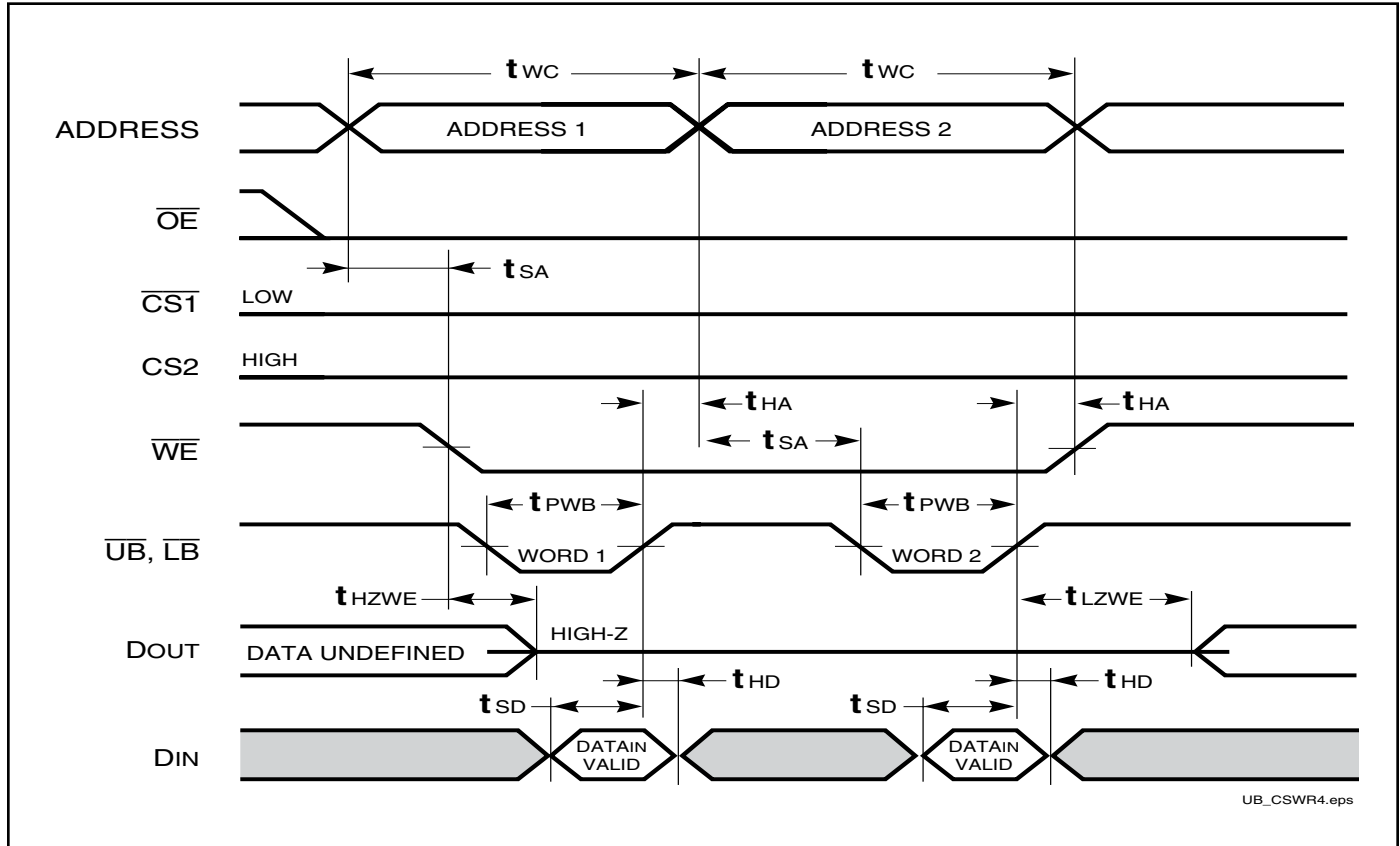
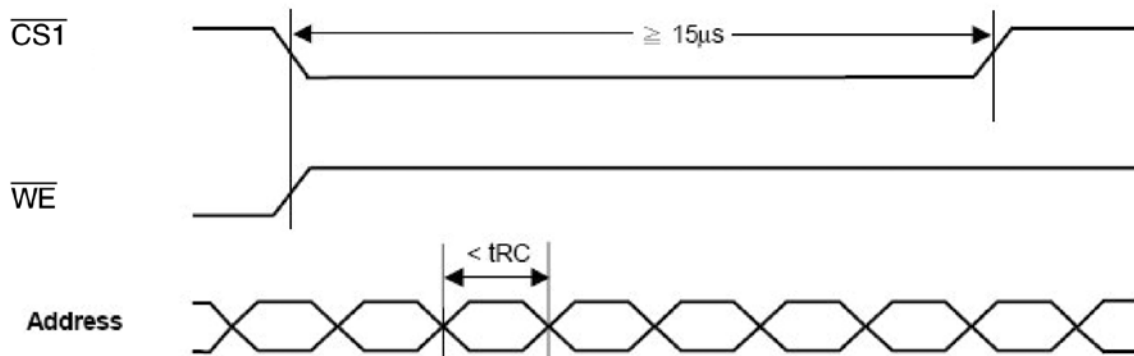

Figure 1: Avoidable Timing
Figure 2:
1. Test conditions assume signal transition times of 5 ns or less, timing reference levels of 0.9V/1.5V, input pulse levels of 0.4 to VDD-0.2V/0.4V to VDD-0.3V and output loading specified in Figure 1.
3. Tested with the load in Figure 2. Transition is measured  $\pm 100$  mV from steady-state voltage. Not 100% tested.
Please avoid address change for less than tRC during the cycle time longer than 15 μs (Figure 1). Figure 2 & 3 provide work around solution for this issue.